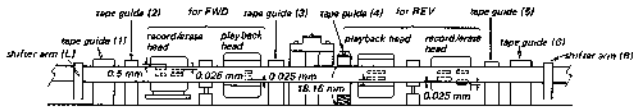

Fig. 3-25. Head adjustment
- Make sure that the positioning relations between the head core and the tape is correct. See Fig. 3-25.